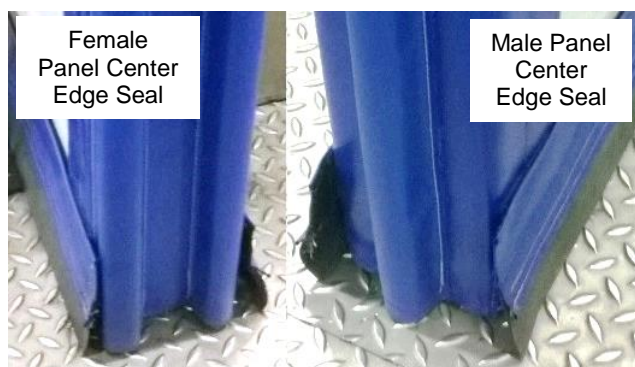

Figure 31
3. Inspect the Bi-Parting door panel leading edge seals. It should form a seal tight barrier along the entire center vertical edge of the panels. They are normal wear items and will need to be replaced when worn to insure proper door seal depending on usage and local environment. Replace or adjust as necessary. (See Figure 31)